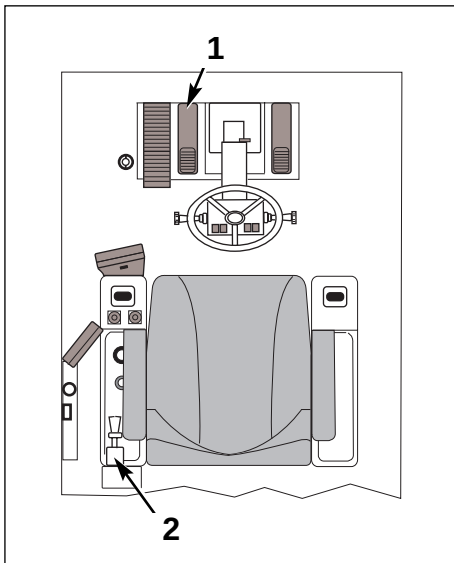

Fig. 1
- Apply the parking brake (2 fig. 1).
When the hydrostatic travel is disconnected, the machine can be towed but the main brake (1 fig. 1) is no longer active.